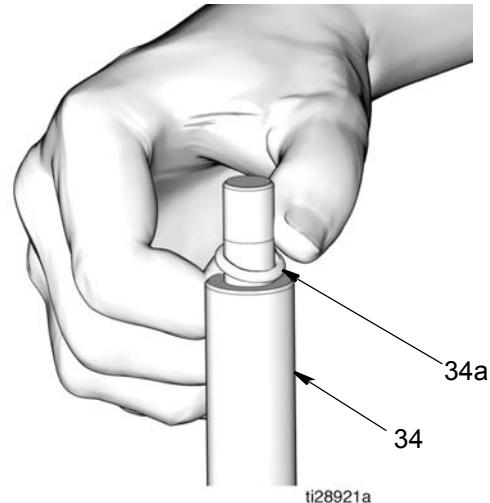

FIG. 30
5. Apply a thin layer of grease to o-ring (34a). Install o-ring over the grooves of piston rod (34) (FIG. 30).
**NOTE:** If needed, a pick can be used to help seat the o-ring over the grooves of the piston rod (13).